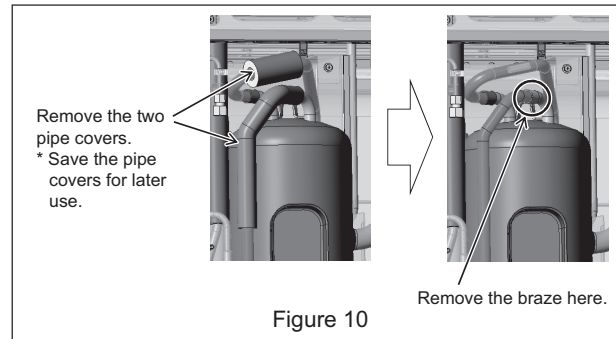

Figure 10
- (10) Remove the pipe covers, and then remove the braze. (See Figure 10.)